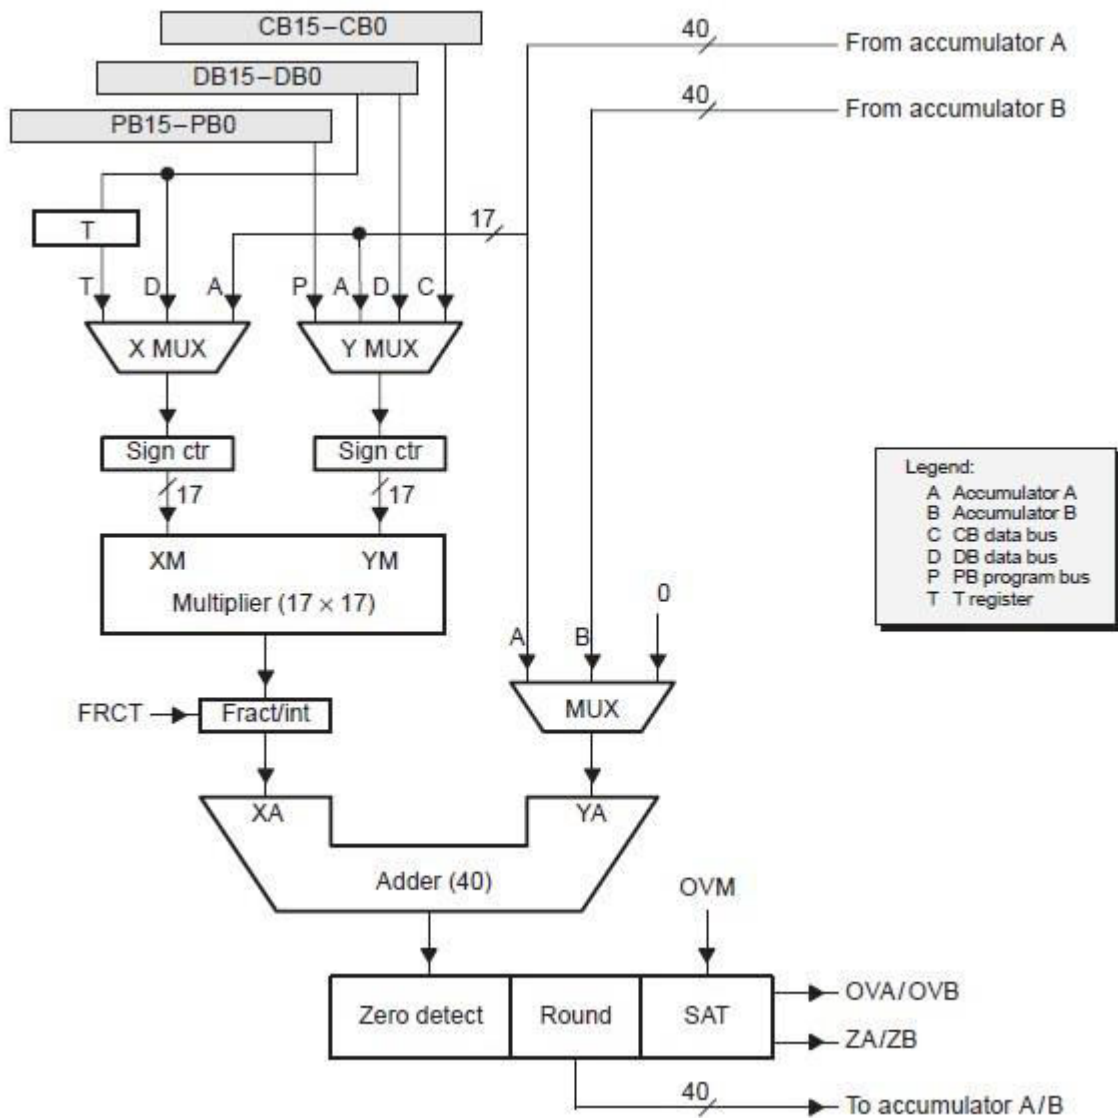

**Figure 3.3.**Functional diagram of the barrel shifter
**Barrel shifter:** provides the capability to scale the data during an operand read or write. No overhead is required to implement the shift needed for the scaling operations. The '54xx barrel shifter can produce a left shift of 0 to 31 bits or a right shift of 0 to 16 bits on the input data. The shift count field of status registers ST1, or in the temporary register T. Figure 3.3 shows the functional diagram of the barrel shifter of TMS320C54xx processors.